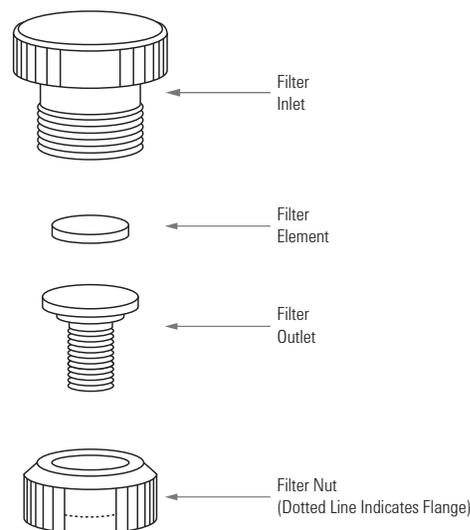

Figure 5. Exploded View of Inline Solvent Filter
3.7. To assemble the inline solvent filter, press the filter element into the recess in the top of the filter outlet (see Figure 5). Place the filter outlet into the filter nut so the filter outlet rests on the flange with its threads extending through the hole in the filter nut. Then thread the filter inlet into the filter nut and fingertighten; this should be enough to prevent leaks. (If the inline filter leaks after installation on the column, tighten the filter inlet into the filter nut no more than 1/8 turn past fingertight using two open-end 1/2" wrenches. Do not overtighten.)